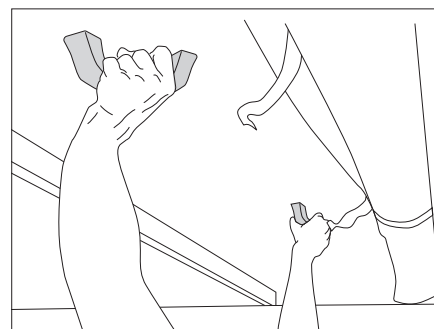

Fig. 35 Pushing up the pop-up roof
- Hold the grips with both hands and push the pop-up roof upwards (Fig. 35).